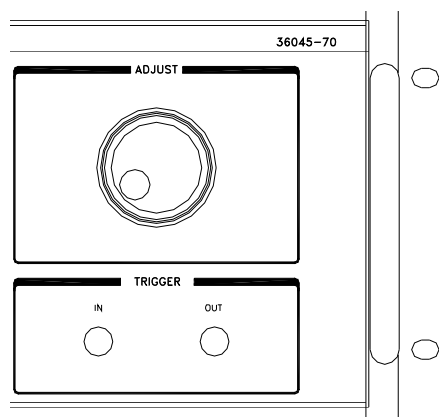

Figure 3.5 Adjust Knob
The left-hand display, labeled Display 1, shown in Figure 3.5, is used to show the laser control parameters of laser drive current (A), laser forward voltage (V), (peak) optical power setpoint (W), and measured optical power from an external photodiode (W PD). In addition, limits for laser current and compliance voltage may be displayed here.
Press the I button in the Display 1 Adjust box (Figure 3.5) to display laser current setpoint in Amps. Next, rotate the Adjust knob to the current setpoint required. If no other button is pressed, the Adjust knob will remain active to allow adjustments to the current without any intervening keypresses. However, if any other button is pressed (with the exception of the P/P_{PD} button), the I button must be pressed again before drive current can be changed. In the case of the P/P_{PD} button, drive current is being adjusted in the “background” in an effort to change the output in terms of optical power.